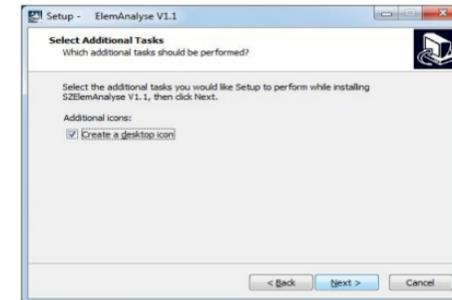

Figure 5-6
6. As shown in figure 5-6 interface, select "create a desktop icon" then click "next"